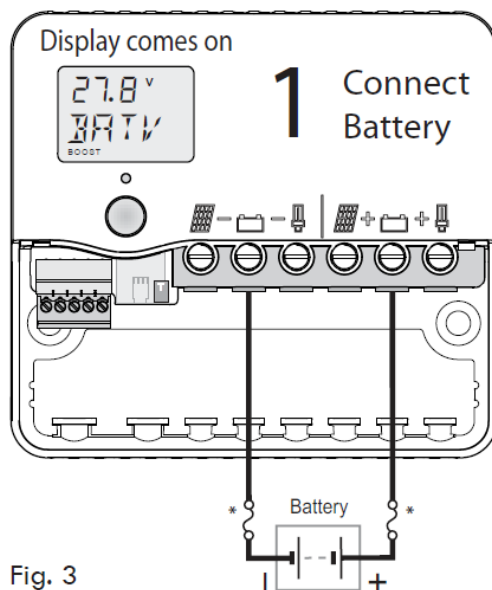

Fig. 3
- Connect the battery first. Positive to Battery+, Negative to Battery -. If the display comes on, the connection is correct.(see figure 3)